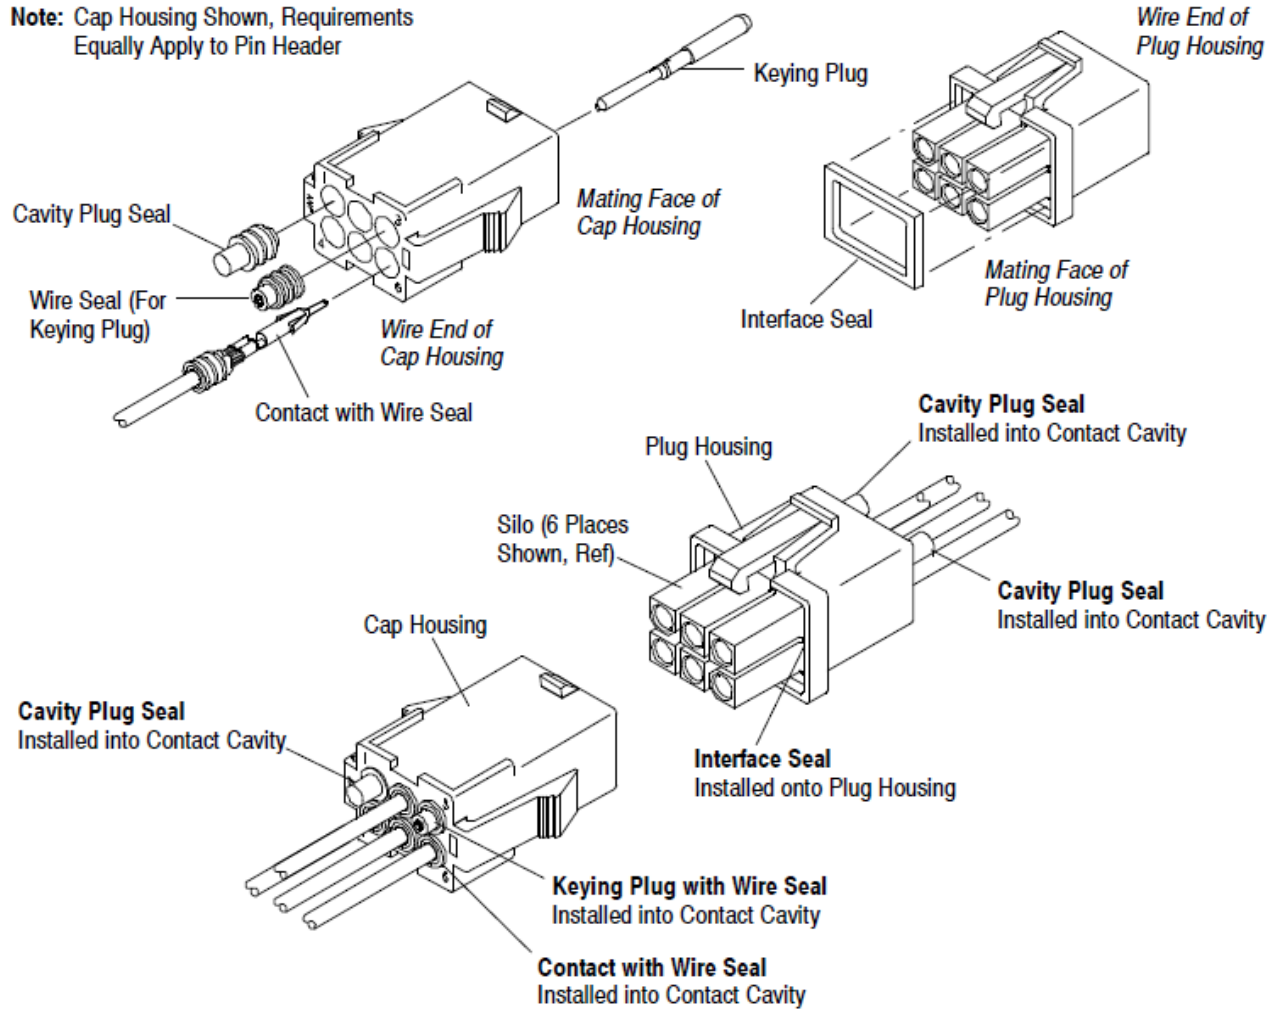

Figure 11
1. Align the wire seal with the appropriate cavity at the back end (wire side) of the plug or cap housing with the flanged end (end opposite the throat) first. See Figure 11.
1. Align the cavity plug seal with the appropriate cavity at the back end (wire side) of the plug or cap housing with the flanged end (end opposite the throat) first. See Figure 11.